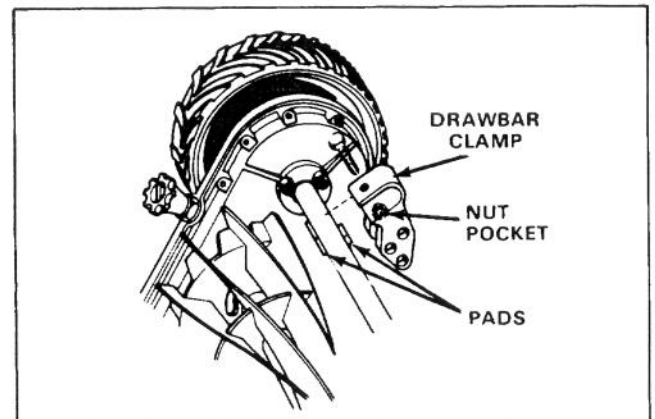

Figure 7
**Note:** If Spartan mowers are to be attached, drawbar clamps, part no. 5-1090 and mounting fasteners will be required to mount drawbar to cross tube of mower (Fig. 7). Contact your local Authorized Toro Distributor to order parts or for assistance.